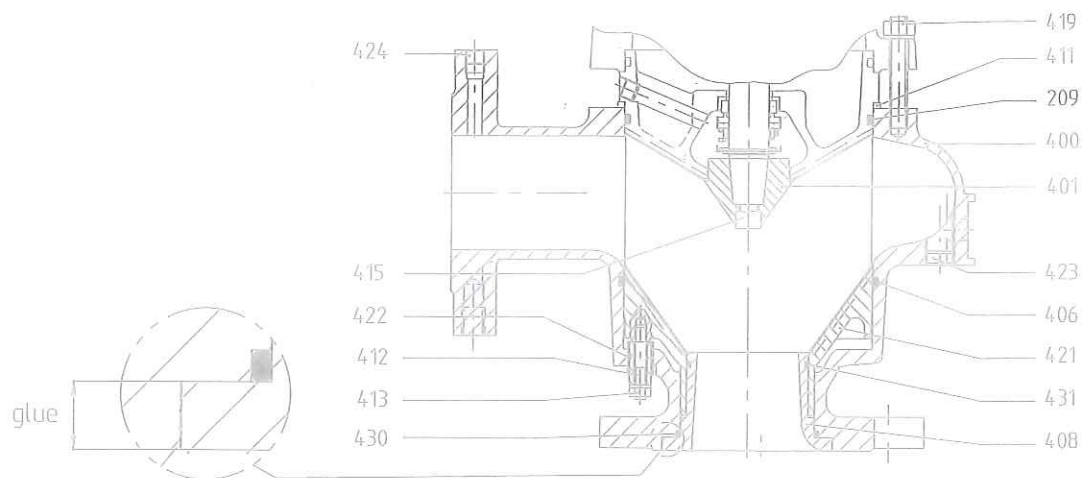

Fig. 8: C080 regulable
3.4.4 ASSEMBLY OF LINER, WEAR RING AND SUCTION CASING FOR "REGULABLE" PUMPS (Fig. 8 - 10)
If wear ring (408) was removed, place O - Ring (430) into casing (400) or suction casing (416). Insert O - Ring (431) in groove of wear ring. Cover wear ring **ONLY** at the designated places (see fig. 8 - 10) with high-strength adhesive. Tap wear ring into volute or suction casing with soft mallet until end face of wear ring is flush with flange face of volute or suction casing.
3.3.5 REMOVAL OF LINER, WEAR RING AND SUCTION CASING FOR "REGULABLE" PUMPS (Fig. 8 - 10)